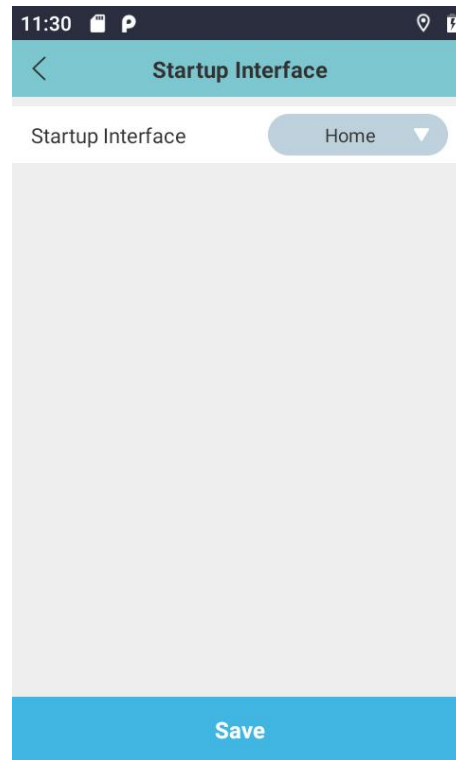

Figure 6.111
3) Startup Page: Tap “Startup Page” to set the default screen the instrument loads after booting (Figure 6.111). Available options include: